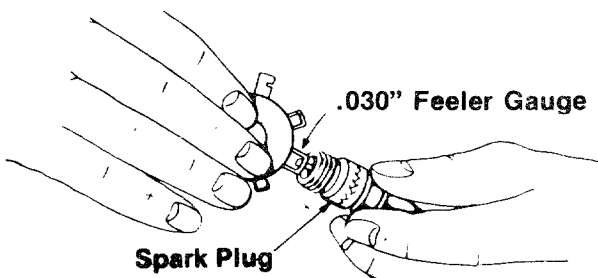

FIGURE 32.
1. Remove the spark each time you change the oil and inspect it. See figure 32.